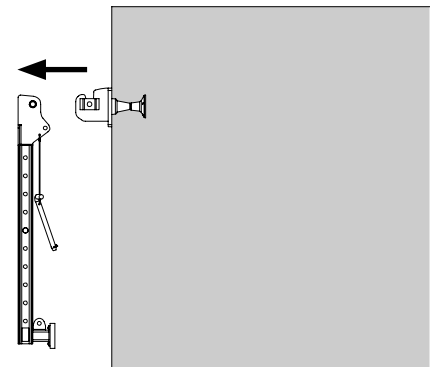

Fig. C3.08
- Dismantle and remove the bracket unit. (Fig. C3.08)